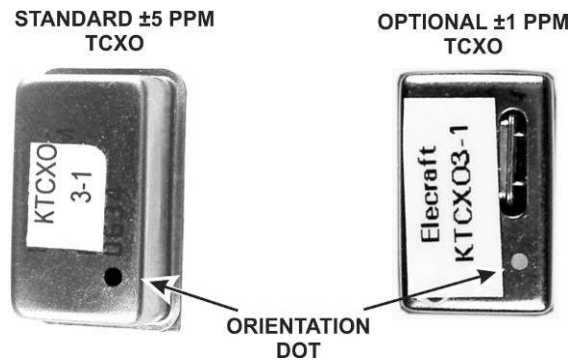

Figure 75. TCXO Modules.
- Locate the Temperature-Compensated Crystal Oscillator (TCXO) module. If you ordered the optional  $\pm 1$  ppm TCXO it will be supplied *instead* of the standard 5 ppm module (see Figure 75).